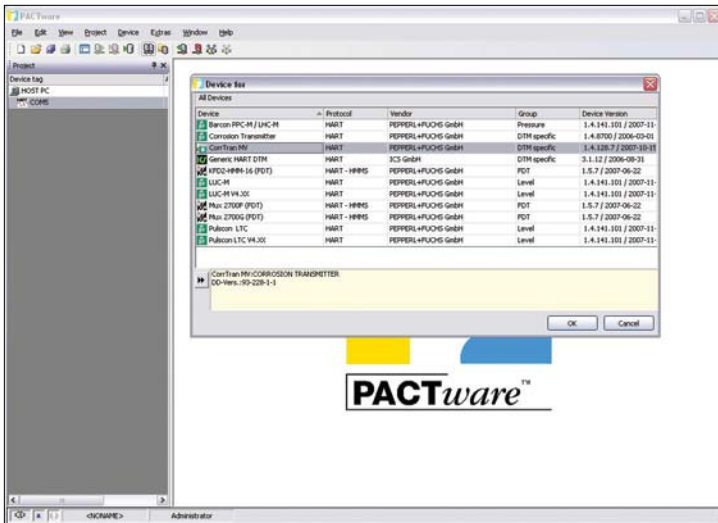

Figure 28. 'CorrTran MV' DTM
- Right click and select 'Device' > 'Add device' from the toolbar and add the 'CorrTran MV' DTM. Your screen should appear as shown in Figure 28.